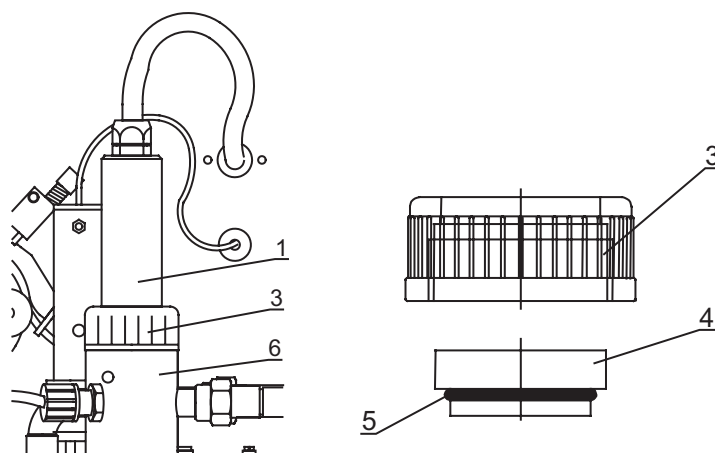

Figure 26: O2 Probe Mounting Assembly
4. Undo the sleeve nut (3) and carefully unscrew the O2 probe from the flow chamber (6) on the bioreactor cap (figure 26).
5. Unscrew the adapter (4) and remove the adapter and sleeve nut (3), from the probe.
7. Check the O-ring (5) for damage before assembling. Replace if needed.